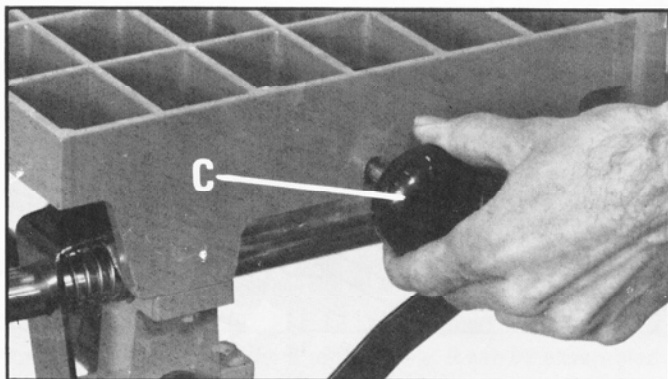

Fig. 20
To release the clamping action of the fence halves, pull out fence locking hand knob (C) as shown in Fig. 20.